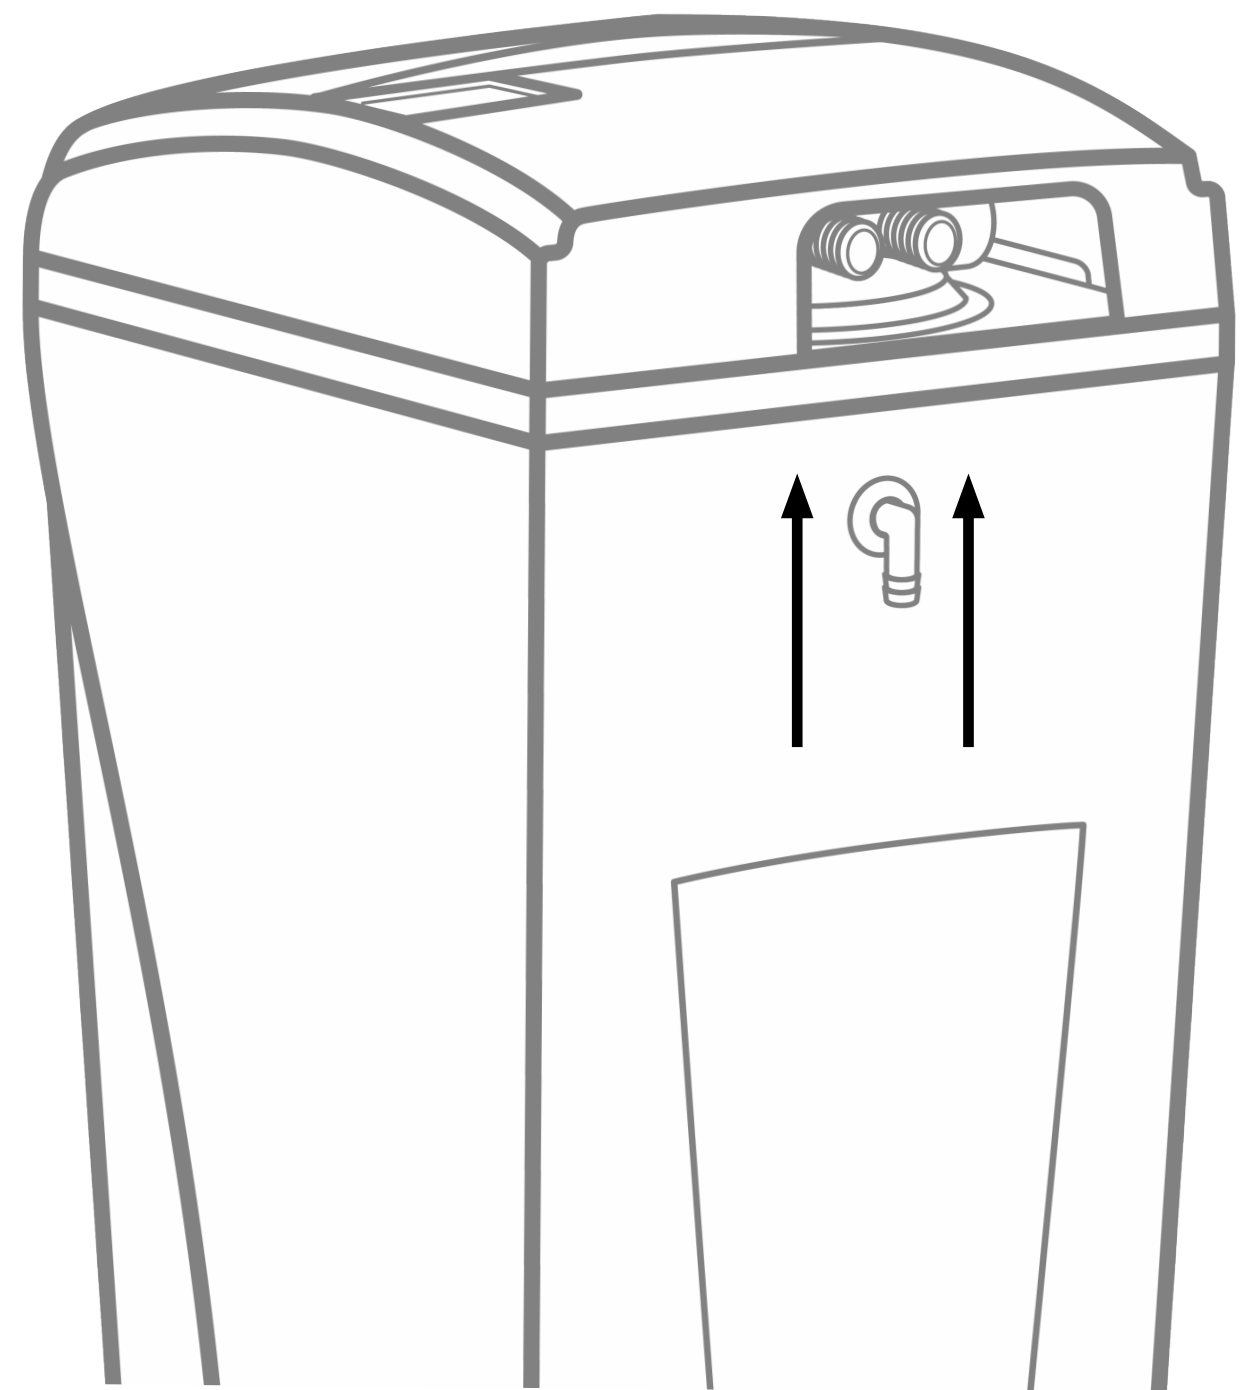

Figure 3: Gravity Overflow Connection
1. Attach the gravity overflow connection elbow and check that it is in the down position. (See Figure 3)